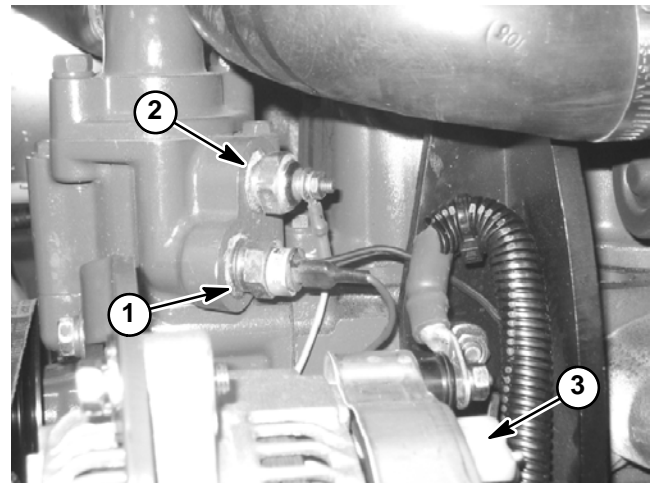

Figure 10
- A. The dual temperature switch, temperature sender and alternator (Fig 10).
A. The dual temperature switch, temperature sender and alternator (Fig 10).